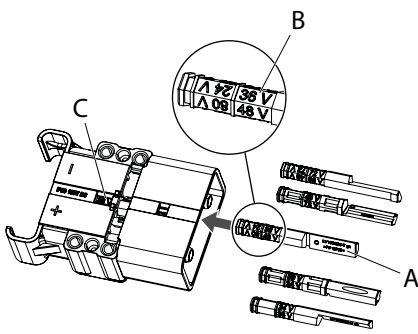

Fig. 20:
1. Rotate the coding pin (*Fig. 20/A*) for the required voltage so that the voltage indication faces upwards.
- For charger/vehicle plugs, the voltage indication on the front part of the coding pin is defining (*Fig. 20/B*).
- After insertion, the voltage indication (B) on the coding pin must be visible in the housing cut-out (*Fig. 20/C*).
- The voltage indication (B) on the coding pin must now be visible in the housing cut-out (C).